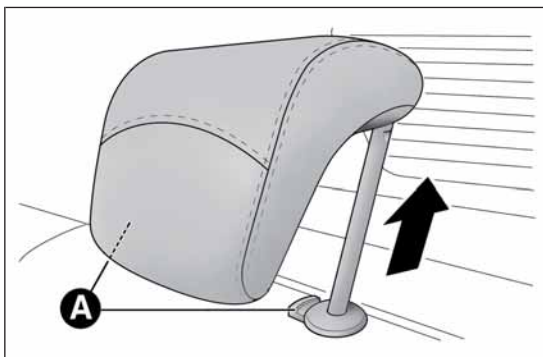

fig. 66
- raise the head restraints to the maximum height, press both the buttons A fig. 66 to the side of the two supports, then remove the head restraints by sliding them upwards;